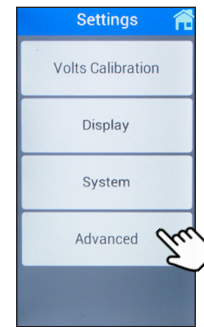

Figure 53. Settings
- Step 2.** Select the Advanced button (see Figure 53).